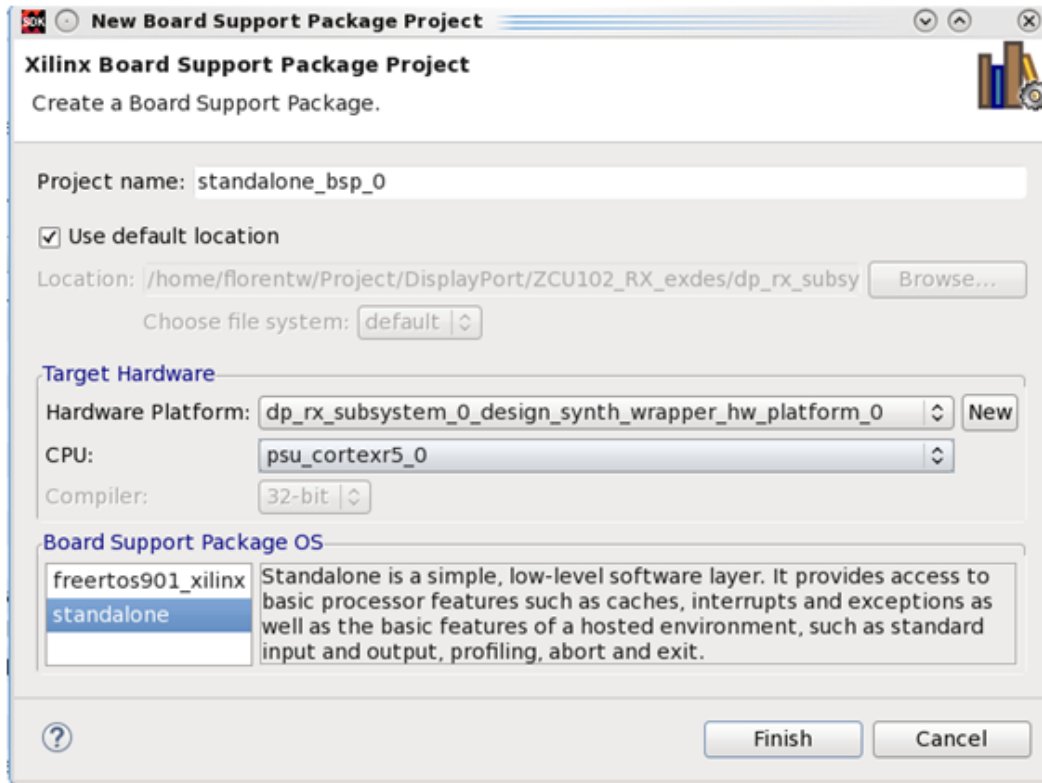

Figure 5-14: New Board Support Package Project
- To create a Board Support Package (BSP), click **File > New > Board Support Package**. Enter the BSP **Project name**, click **Finish** (Figure 5-14), and then **OK**. For ZCU102 board, ensure the target CPU is the Cortex R5_0 (psu_cortexr5_0)